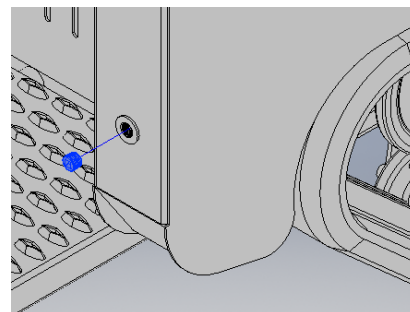

Fig 24
3. Remove the drain plug from the bottom of the hydraulic tank and allow the fluid to completely drain out. **(Fig 24)**